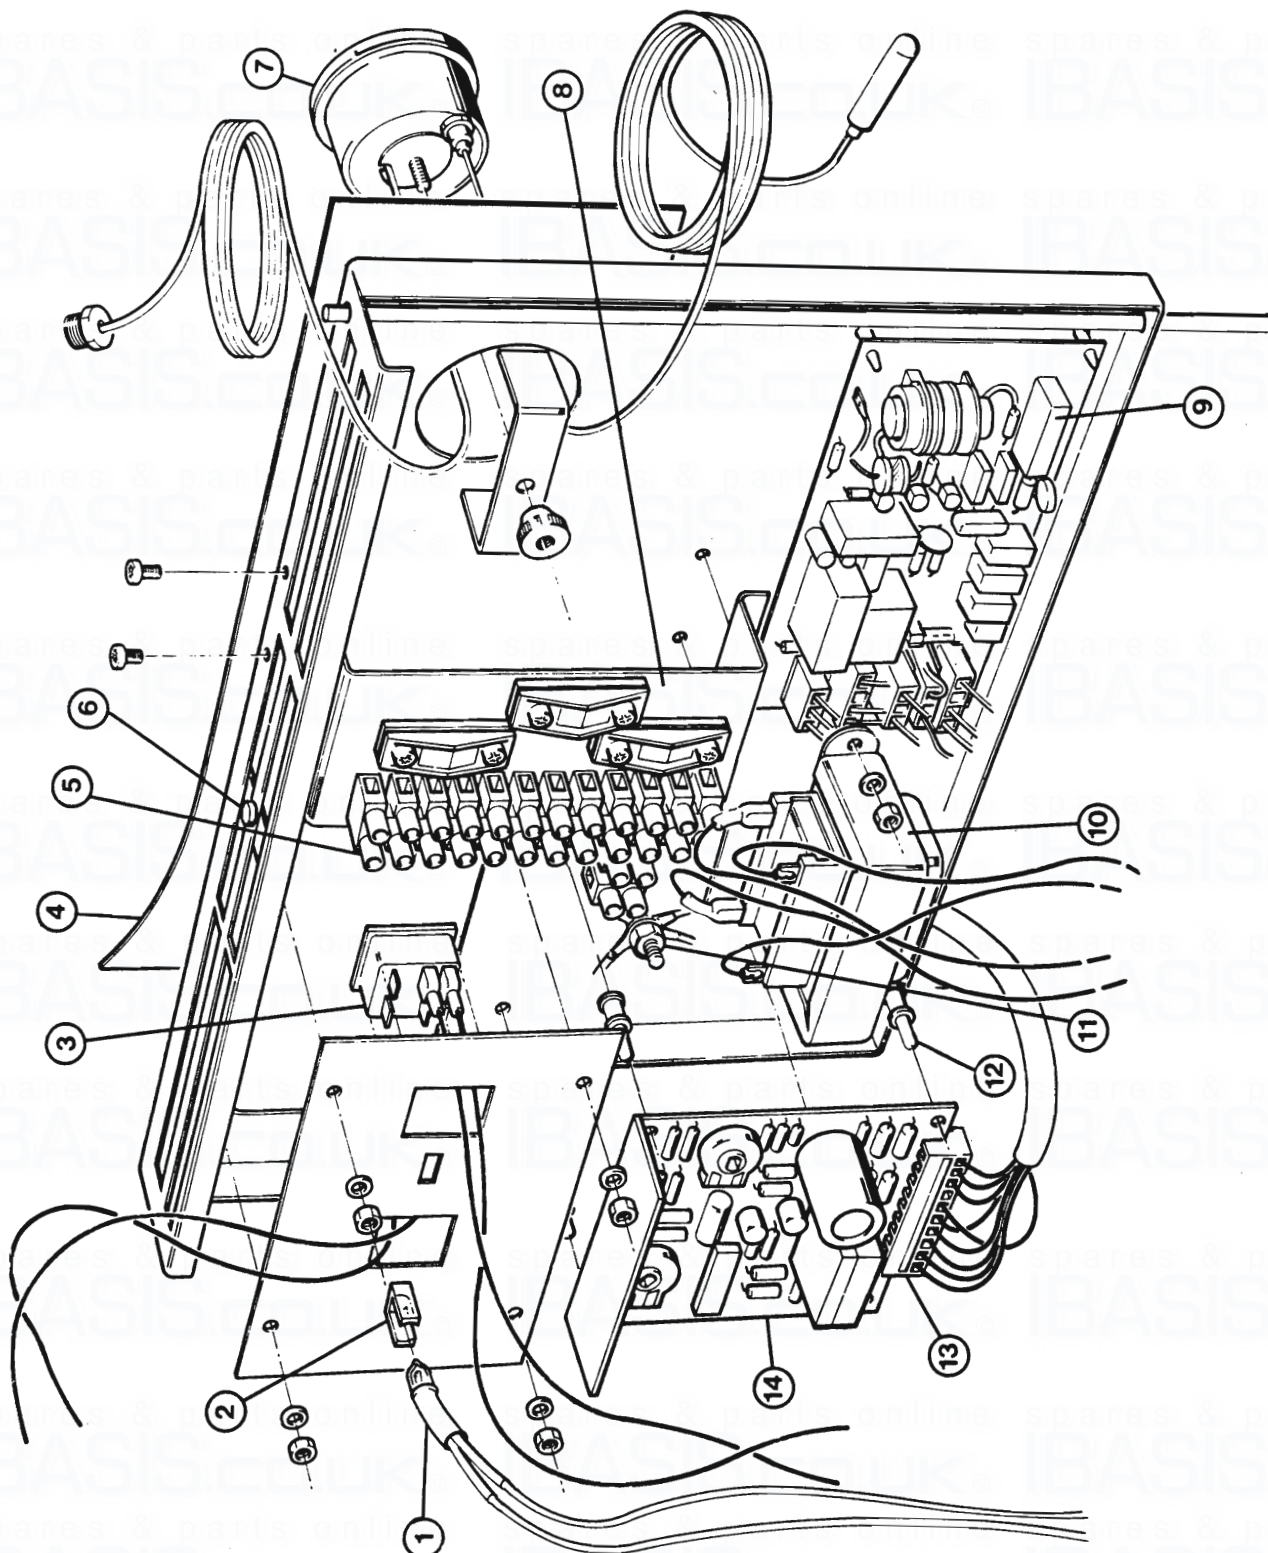

Fig. 11
Transformer: Refer Fig.11.
HEATING AND WATER Switches: Refer Fig.11.
Indicator Neons: Refer Fig.11.
P.C.B. Driver Board - Refer Fig. 11
Automatic Ignition P.C.B. - Refer Fig. 11
Pressure/Temperature Gauge-Refer Fig11.